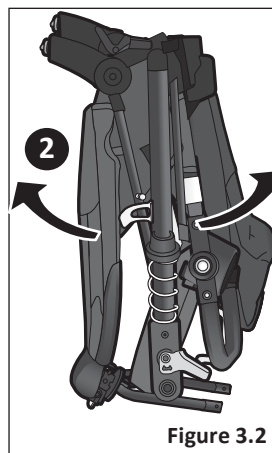
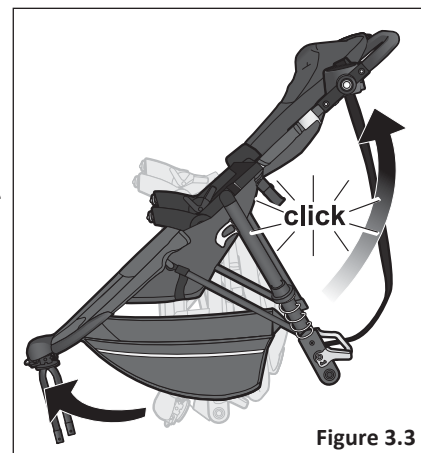

Figure 3.2
Figure 3.3
- 2 Continue holding lock open while pulling up on handle **Figure 3.2** until frame “clicks” into place. **Figure 3.3**